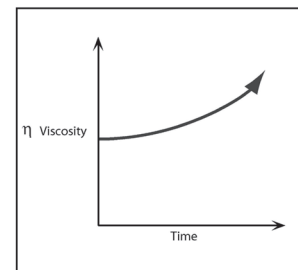

Figure 4-7
**RHEOPEXY:** This is essentially the opposite of thixotropic behavior, in that the fluid’s viscosity increases with time as it is sheared at a constant rate. See Figure 4-7.